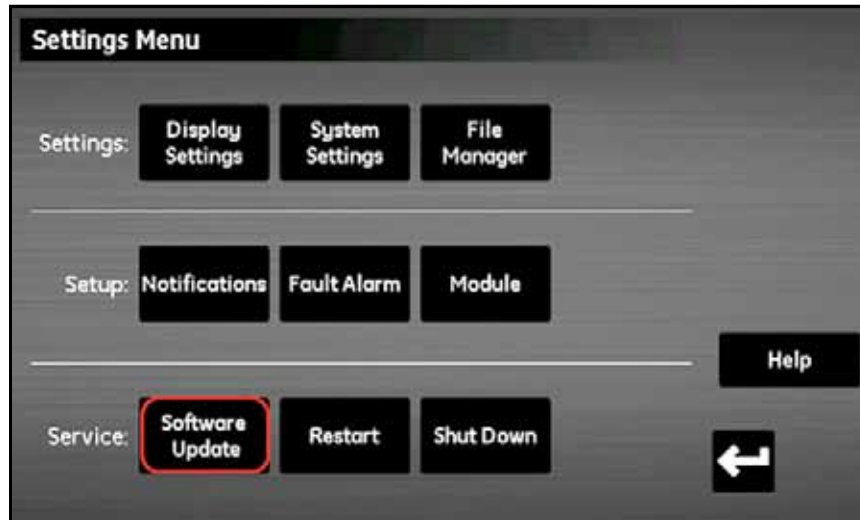

Figure 77: Software Update
5. In the Service section (see *Figure 77* below), tap the Software Update button. If the Software Update button is grayed out, check to ensure that the USB flash drive is properly plugged into the USB port.